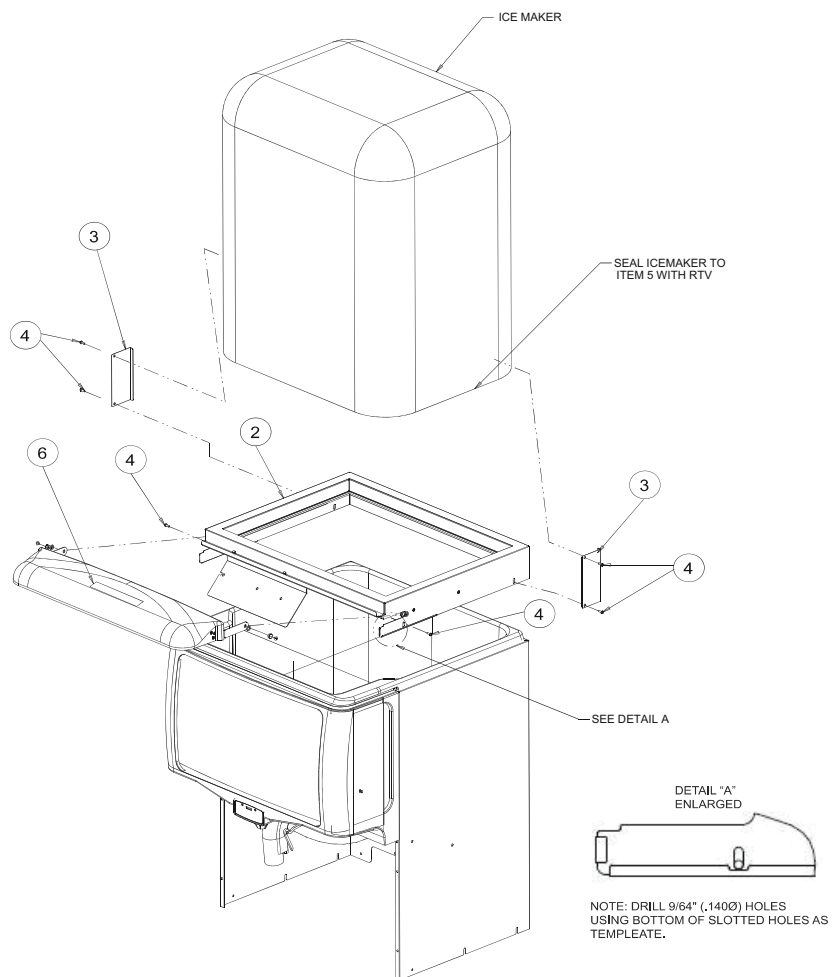

Figure 3. ED Dispenser Exploded Assembly with Ice maker
3. Place two (2) sealing washers (item 9) over the studs and two (2) flat washers (item 11), then fasten in place with two (2) plastic acorn nuts (item 8).
5. Using the four holes in the adaptor cover as templates, drill 9/64" (.140" Dia.) holes in the sides of the dispenser (2 holes per side). **Use extreme caution not to drill into any other components.** Maximum drill depth from the face of the kit should not exceed 3/8" (just enough to go through the material being drilled). Remember, the kit should be all the way forward and compressed down before drilling the holes. Otherwise, undesirable gaps (lid to merchandiser) may result and the internal latch feature for the lid may not function properly. After holes are drilled, secure the kit to the machine using the screws provided (refer to Figure 3).